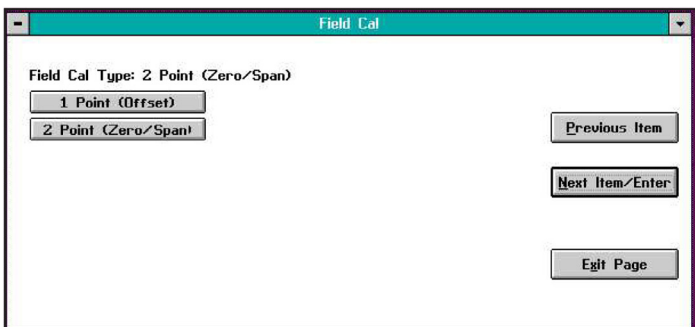

Figure 18: Field cal type window
5. In the Field Cal Type window (shown in *Figure 18 on page 21*), click on either the 1-Point or 2-Point button. Then, click on any button on the right to return to the Configure Cal window
A typical Field Cal Type window is shown in Figure 18 below.